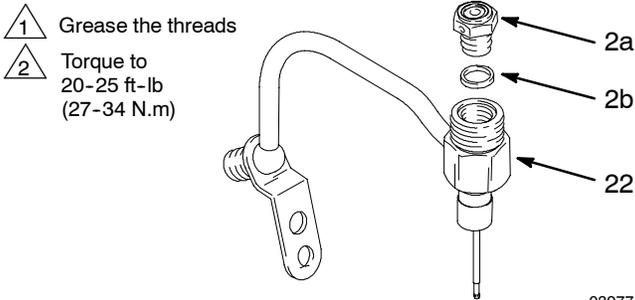

Fig. 15 03977
3. Place the gasket (2b) on the valve seat (2a). Grease the threads of the valve seat (2a). Screw the valve seat into the fluid housing (22). Torque to 20-25 ft-lb (27-34 N.m). See Fig. 15.